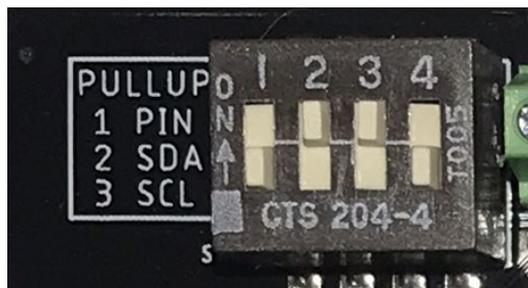

Figure 10: UniShield Function Switch Set
The Riser board contains a 4-position slide switch set to control different functions of the UniShield (see Figure 10). The switches enable the following functions:
2. With the UniShield upright on the worktable, remove the 2x Phillips head screws on either side of the Riser board (see Figure 10). Do not let the Riser board move until both screws have been removed.